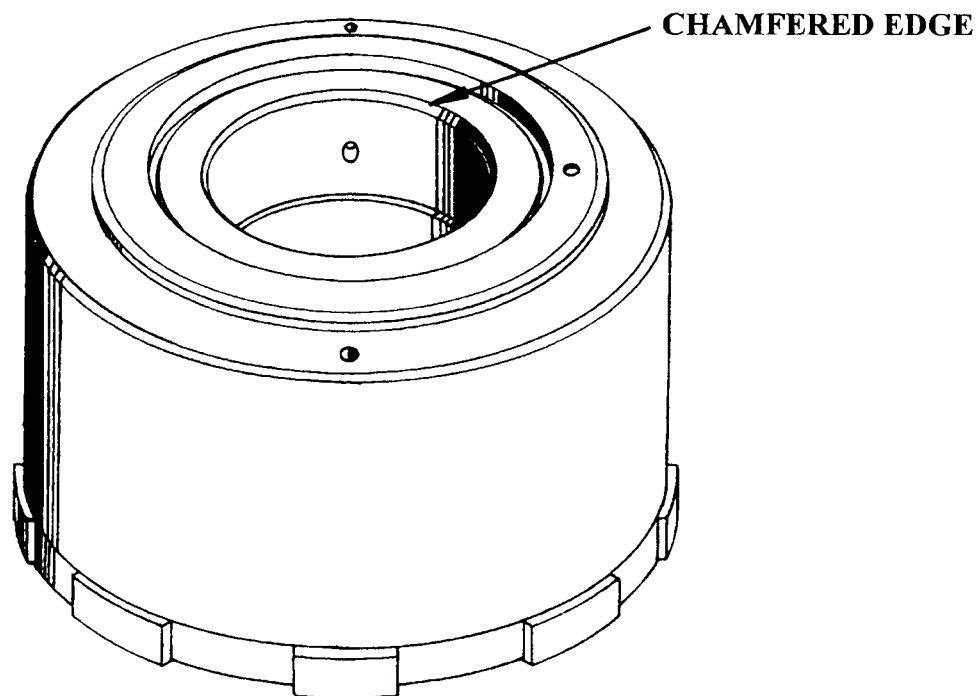

Figure 30
- (1) **DIRECT CLUTCH DRUM - 1st Change:** Was changed from a stamped steel drum to a cast drum, and the sealing ring bore area was chamfered for ease of assembly (See Figure 30).